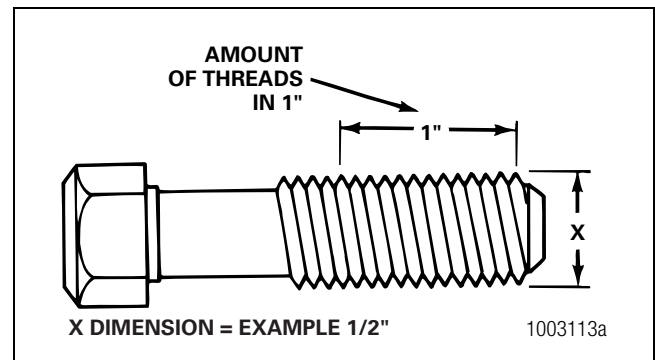

Figure 7.1
1. Measure the diameter of the threads in inches, dimension X. Figure 7.1.
2. Count the amount of threads there are in 1-inch. Figure 7.1.
0.50-13 Standard American size (Figure 7.1)	0.50 = the diameter of the fastener in inches, dimension X 13 = the number of threads in one inch
M8 x 1.25 Metric (Figure 7.1)	M8 = the diameter in millimeters, dimension X 1.25 = the distance between two threads, pitch